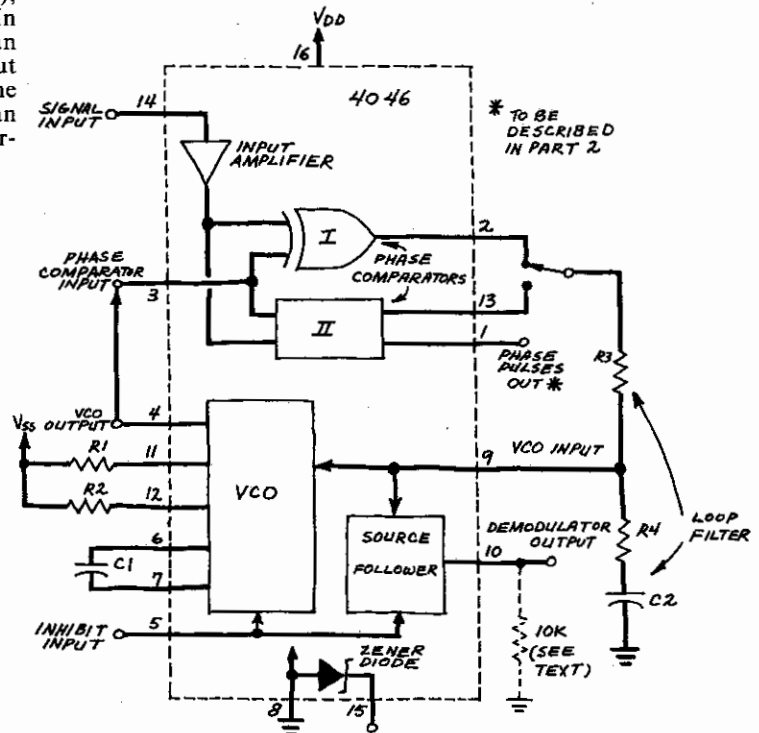

Fig. 2. Block diagram of the 4046 CMOS micropower phase-locked loop.
**Inside the 4046 PLL.** Figure 2 is a block diagram of the 4046 CMOS micropower PLL. One of the most obvious features of this chip is that it includes *two* phase comparators. Phase Comparator I is an exclusive-OR gate that provides a high degree of noise immunity. Unfortunately, this comparator has a tendency to lock onto input signals having frequencies close to harmonics of the vco frequency. Also, it requires a square-wave input with a 50% duty cycle.
Figure 2 shows a source follower connected to the vco input. This buffer stage is intended specifically for frequency-demodulation applications. It allows an external amplifier or other circuit to be driven by the output signal from the loop filter (the filtered error voltage) without loading down the filter. When the DEMODULATOR output (pin 10) of the source follower is used, a load resistor of at least 10,000 ohms must be connected between pin 10 and ground ( $V_{SS}$ ). Otherwise pin 10 should be left floating.
A minimum number of external components is required to use the 4046. The center frequency of the vco is determined by one capacitor ( $C1$ ) and one or two resistors ( $R1$  and  $R2$ ) as shown in Fig. 2. When only  $R1$  is used, the vco frequency can be varied from 0 Hz when the control voltage at pin 9 is  $V_{SS}$  to a maximum frequency given by the equation:  $f_{max} = 1/(R1(C1 + 32 \text{ pF}))$  when the control voltage is  $V_{DD}$ . For proper